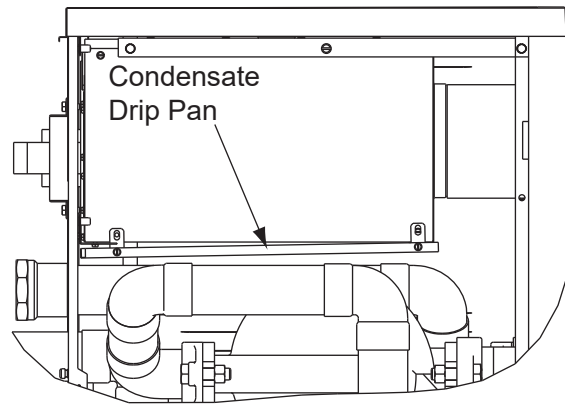

Figure 9. Install the Condensate Drip Pan
5. Optional—For applications where condensation may form on cold intake air ducting, install the condensate drip pan to the bottom of the air filter box using the four screws provided (verify that the pan is angled slightly downward toward the rear of the heater as shown in **Figure 9**).